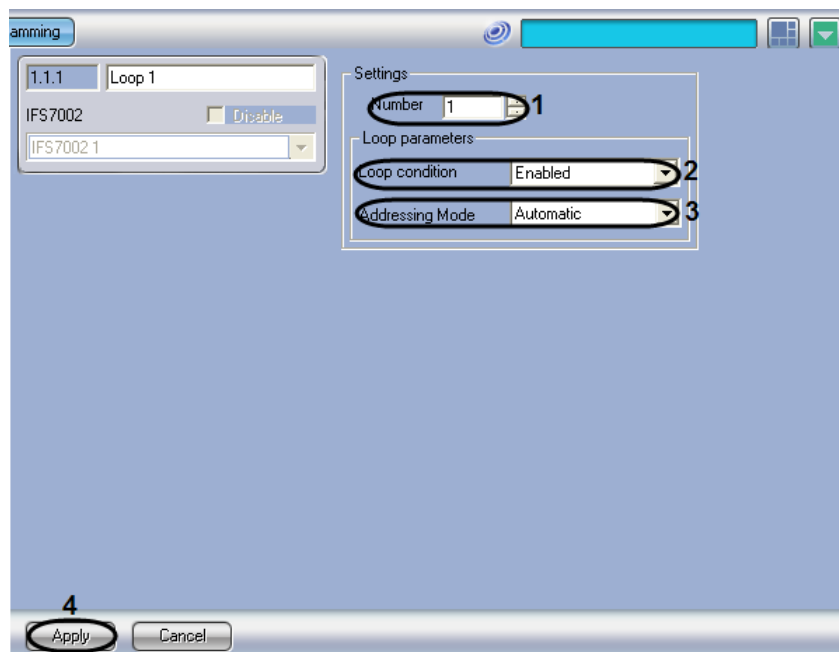

Fig. 3.4—2 Configuring a SLC
2. Enter the number of the loop (1 or 2) into the “Number” field (see Fig. 3.4—2, 1).
3. Select Enabled/Disabled in the “Loop condition” field (see Fig. 3.4—2, 2).
4. Select the automatic or manual addressing mode in the CAN network for addressable devices linked in the loop into the “Addressing mode” field (see Fig. 3.4—2, 3).